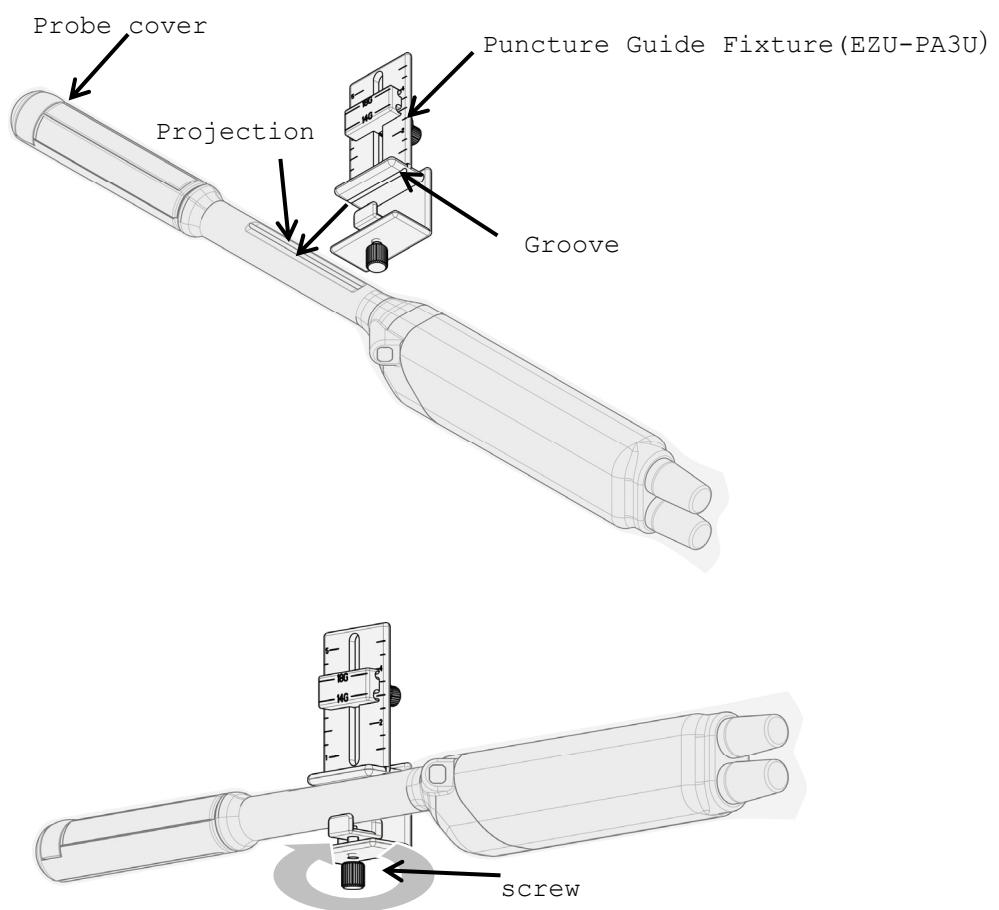

Fig 10. How to attach the EZU-PA3U
- 2) Fit the groove of the Puncture Guide Fixture to the projection on the probe. (as shown in Fig.10)